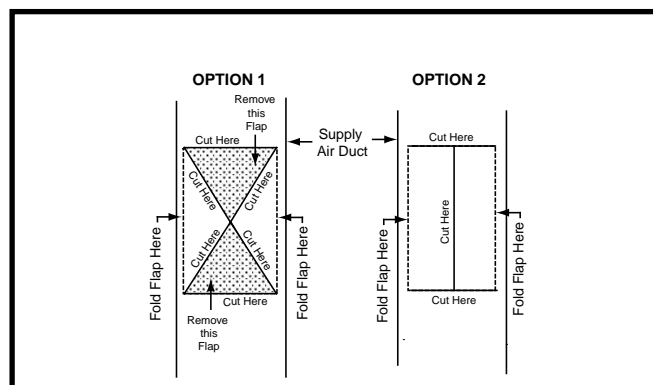

Figure 10. Narrow Air Duct Openings
1. Score and cut the top of the supply air duct as indicated in Option 1 or Option 2 (Figure 10). With Option 1 choice, cut out the metal from the shaded area.